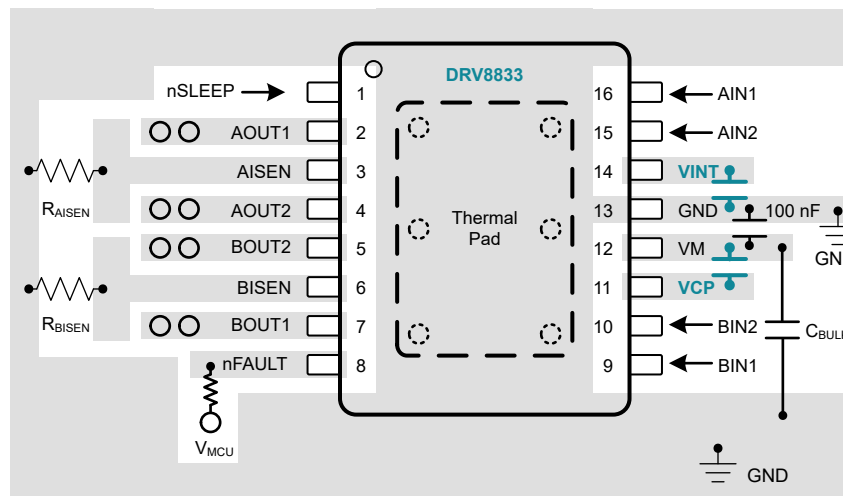
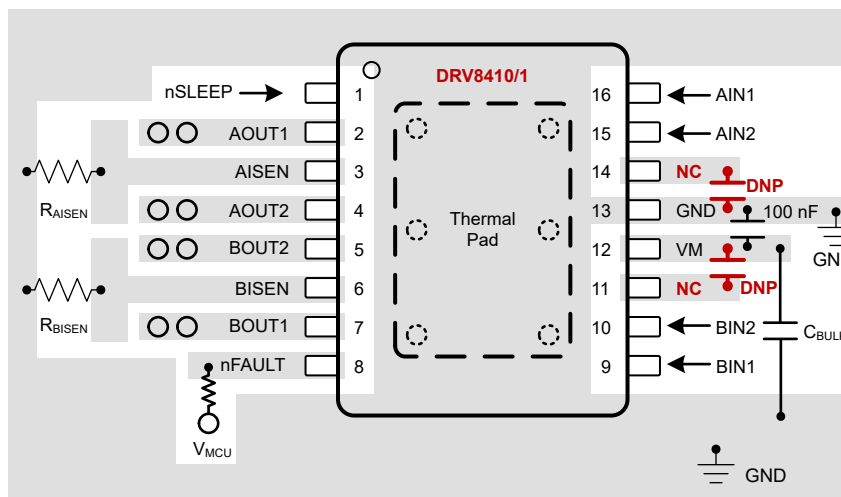

Figure 9-21. DRV8833 Layout Example
Figure 9-22. DRV8410/1 Footprint Compatible Layout Example
- DRV841xPWP can use the same footprint as DRV8833 and DRV8833C in the HTSSOP package as shown in Figure 9-21 and Figure 9-22.